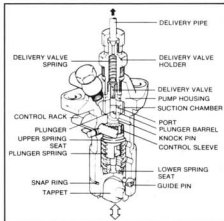

FIGURE 3-52. SINGLE INJECTION PUMP ASSEMBLY
- Remove one high pressure line (both ends), and the corresponding delivery valve holder, spring, volume reducer, and delivery valve, Figure 3-52. Leave gasket and seat in pump.